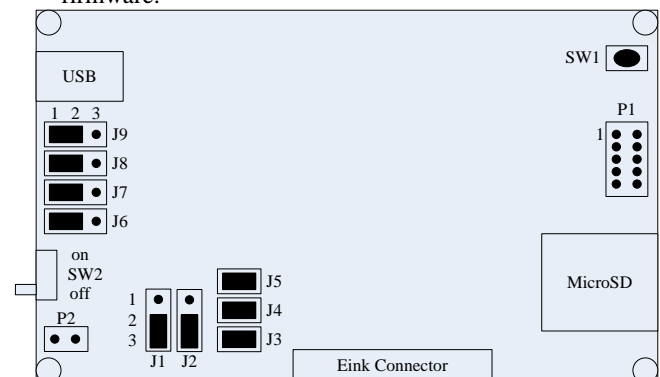

Figure 28. Correct Jumper Positions for Installing Firmware
1. Configure the jumpers as shown in Figure 28 for installing firmware.